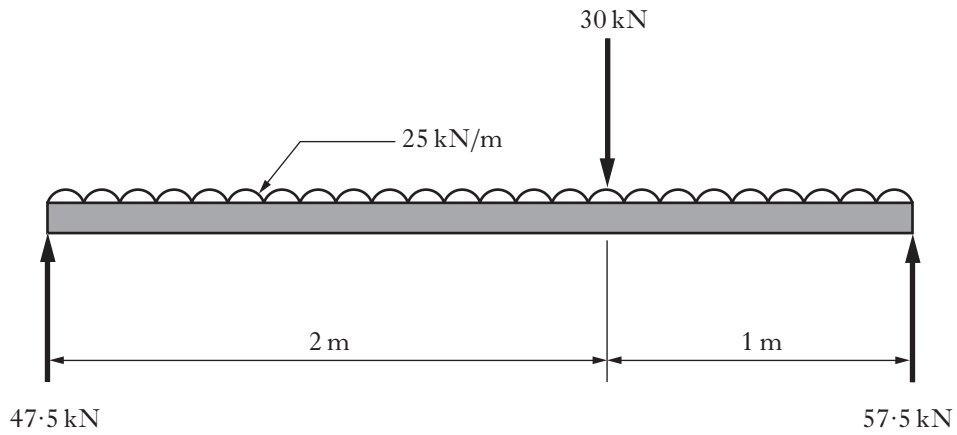

Figure Q7
7. Carbon-Fibre-Reinforced Polymer is used to strengthen and prolong the life of structural concrete beams. Figure Q7 shows the free-body diagram for a test of one such beam.